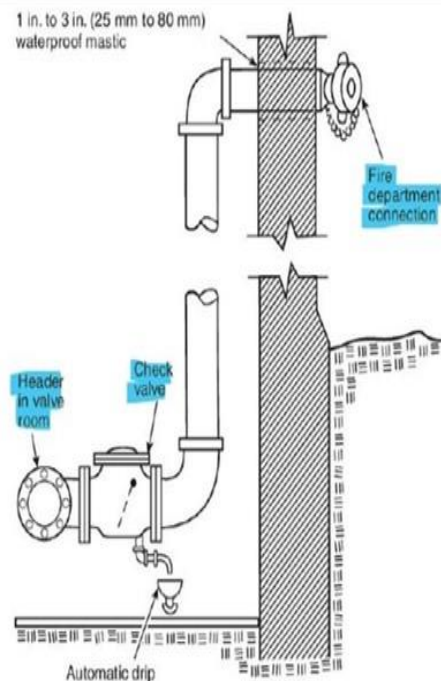

FIGURE 16.12.1 Fire Department Connection.
16.12.5* Arrangement. The fire department connection shall be arranged in accordance with Figure 16.12.1.